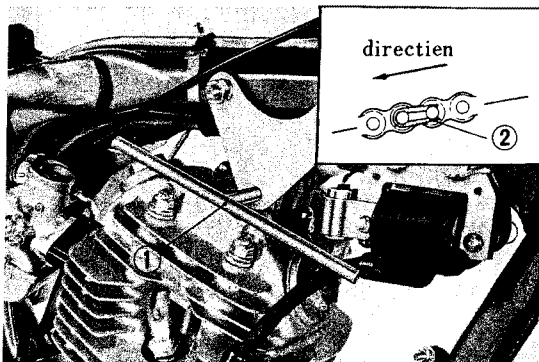

Fig. 29 ① T-screwdriver ② Retaining clip and master link
1) To facilitate installation, line up eye on the cylinder head with holes in the top hanger bracket on the frame. Install a T-screwdriver with the end through these holes. The hanger bolts can then be installed easily. (Fig. 29)